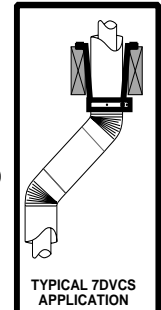

Fig. 60
- 7DVCS must be used to support offsets. (Fig. 60)